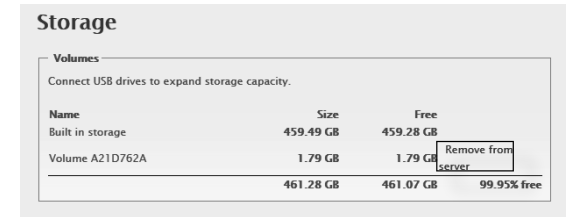

Figure 42
2. When the external drive is to be removed from the MS500, select “Remove from server” and then start the remove process by clicking on the button “OK, Remove the volume”. Refer to figures 42 and 43.